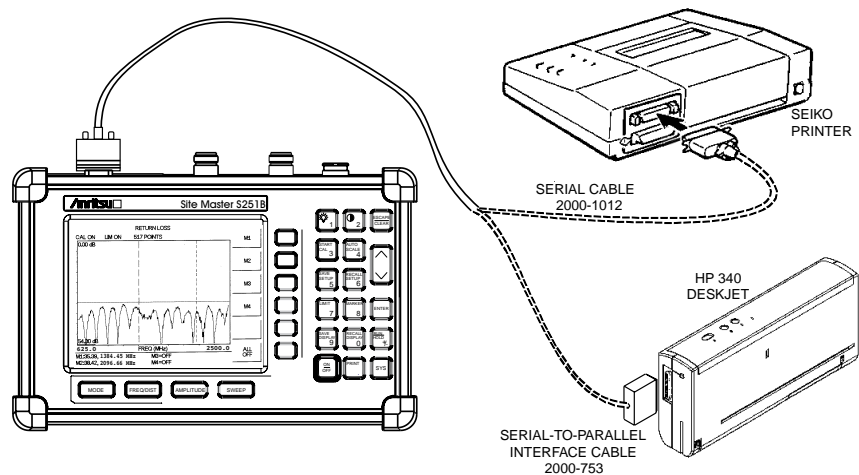

Figure 3-13. Site Master Printer Setup
**Step 1.** Connect the printer as shown in Figure 3-13.